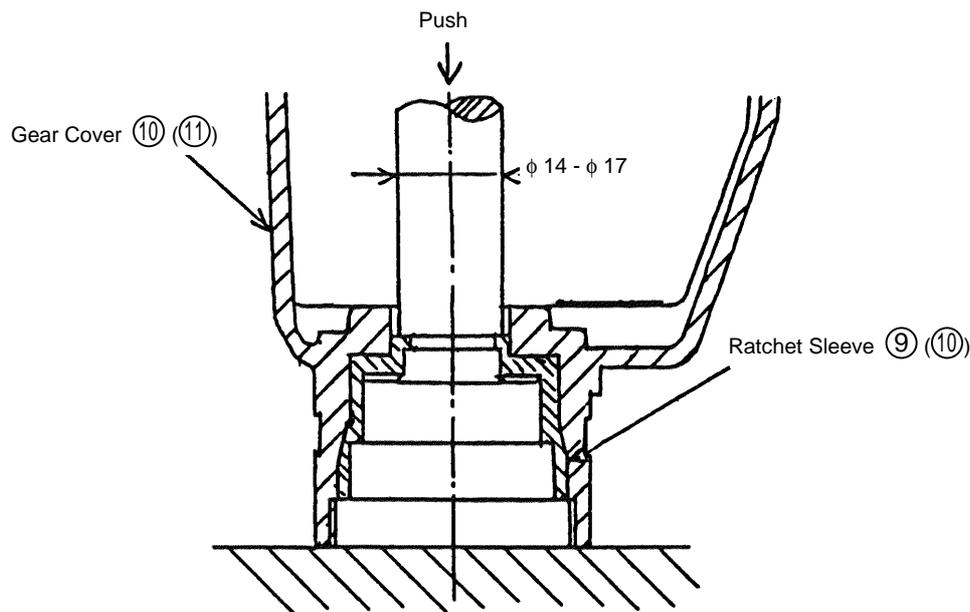

Fig. 12
(4) Removal of the Ratchet Sleeve:
The Ratchet Sleeve ⑨ (⑩) is pressure-fitted into the Gear Cover ⑩ (⑪). As illustrated in Fig. 12, push down on the Ratchet Sleeve ⑨ (⑩) with a hand press to loosen and remove it from the Gear Cover.